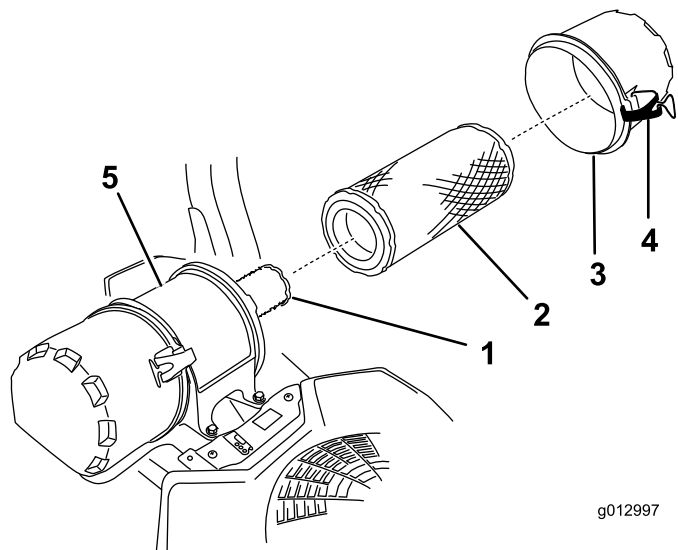

Figure 55
6. Release the latches on the air cleaner and pull the air-cleaner cover off the air-cleaner body (Figure 55).
8. Gently slide the primary filter out of the air-cleaner body (Figure 55).
- If you are replacing the inner filter, carefully slide it into the filter body (Figure 55).
- Carefully slide the primary filter over the safety filter (Figure 55).
- Install the air-cleaner cover and secure the latches (Figure 55).